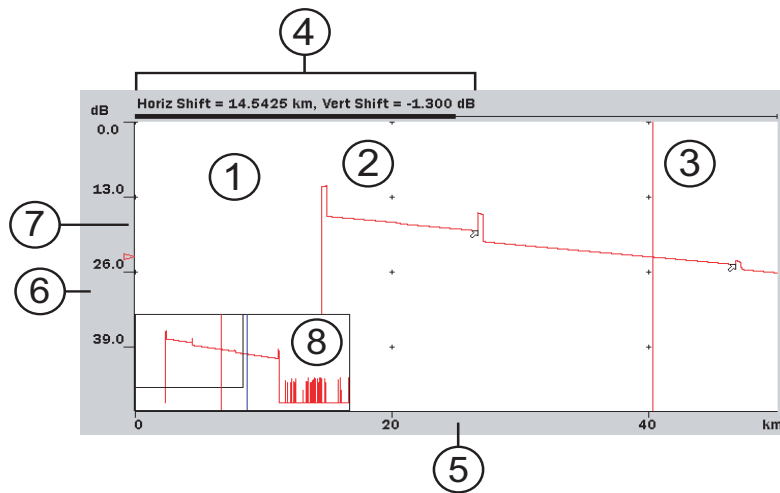

Figure 5-12: Trace Graph
The Trace Waveform (or Trace) is the downward sloping line going from left to right that connects the data points collected during a test. See item 1 in Figure 5-12 on page 5-24.
The cursors (see items 2 and 3 in Figure 5-12 on page 5-24) are the two vertical lines that extend from the top to the bottom of the trace graph. The cursors allow you to extract power and distance information from the trace graph. The active cursor is displayed in red and the inactive cursor is displayed in blue.
These values (see item 4 in Figure 5-12 on page 5-24) are only displayed when some type of shift is in use.
The vertical axis scale (see item 6 in Figure 5-12 on page 5-24) is located on the left side of the trace graph and is expressed in dBs, while the horizontal axis scale (see item 5 in Figure 5-12) is located at the bottom of the trace graph and is expressed in the distance unit as set on the Preferences screen. See “Distance Display Units” on page 5-4 for details.
The dB level indicator (see item 7 in Figure 5-12 on page 5-24) denotes the intersection of the active cursor and the trace level.